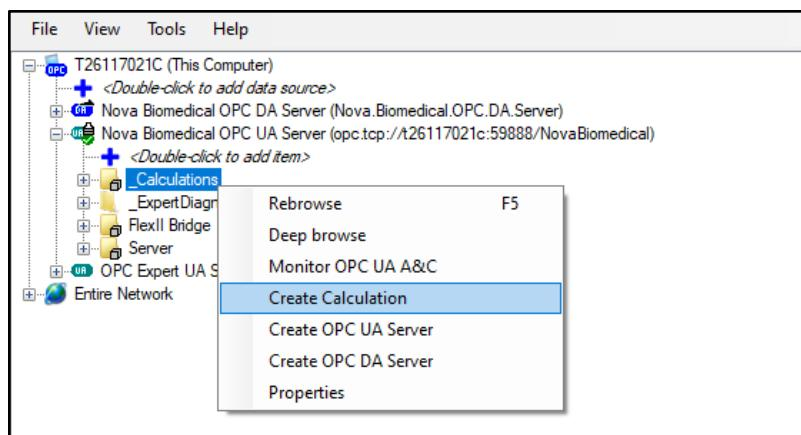
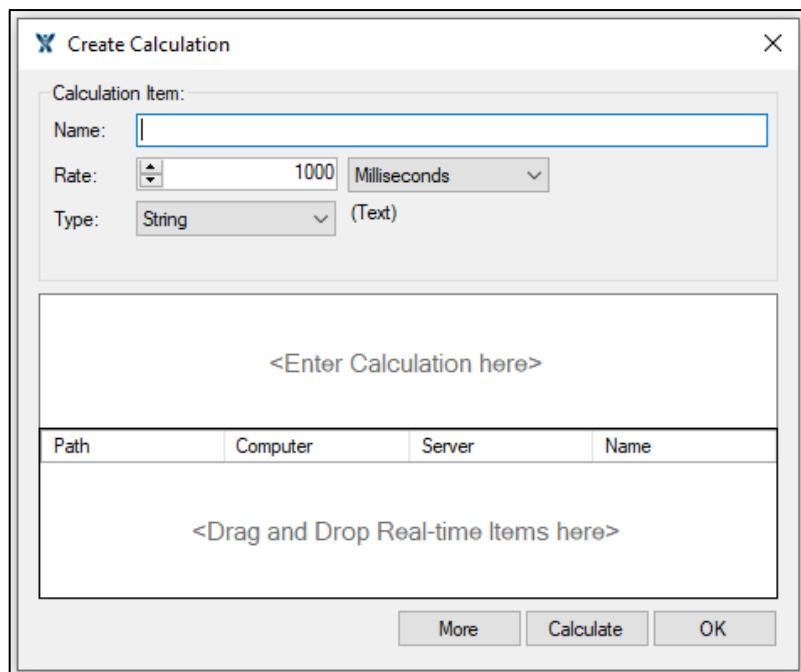

Figure 7.1 Create Calculation for Option 1
Figure 7.2 Calculation Window for Option 1
1. Within the OPC Expert Client, right-click on the folder “_Calculations” within the OPC Server and choose "Create Calculation" (Figure 7.1) to open the Calculations window (Figure 7.2).
NOTE: In Figure 7.2, the dialog box labeled "<Drag and Drop Real-time Items here>" enables users to select and drag items that are subscribed and displayed within the 'Realtime Data' view in OPCExpert. This feature streamlines the process of referencing items during the development of scripting functions, as detailed in section 7.1.2.3.